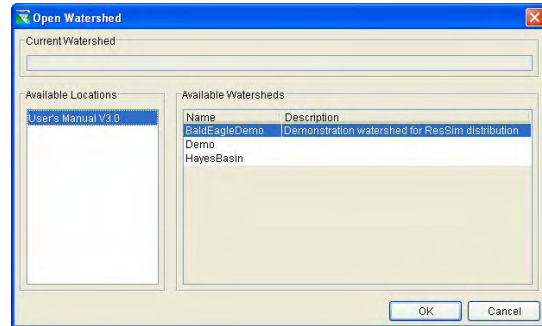

Figure 2.11 Open Watershed Dialog Box
1. On the **File** menu, click **Open Watershed**. The **Open Watershed** dialog box (Figure 2.11) will open.